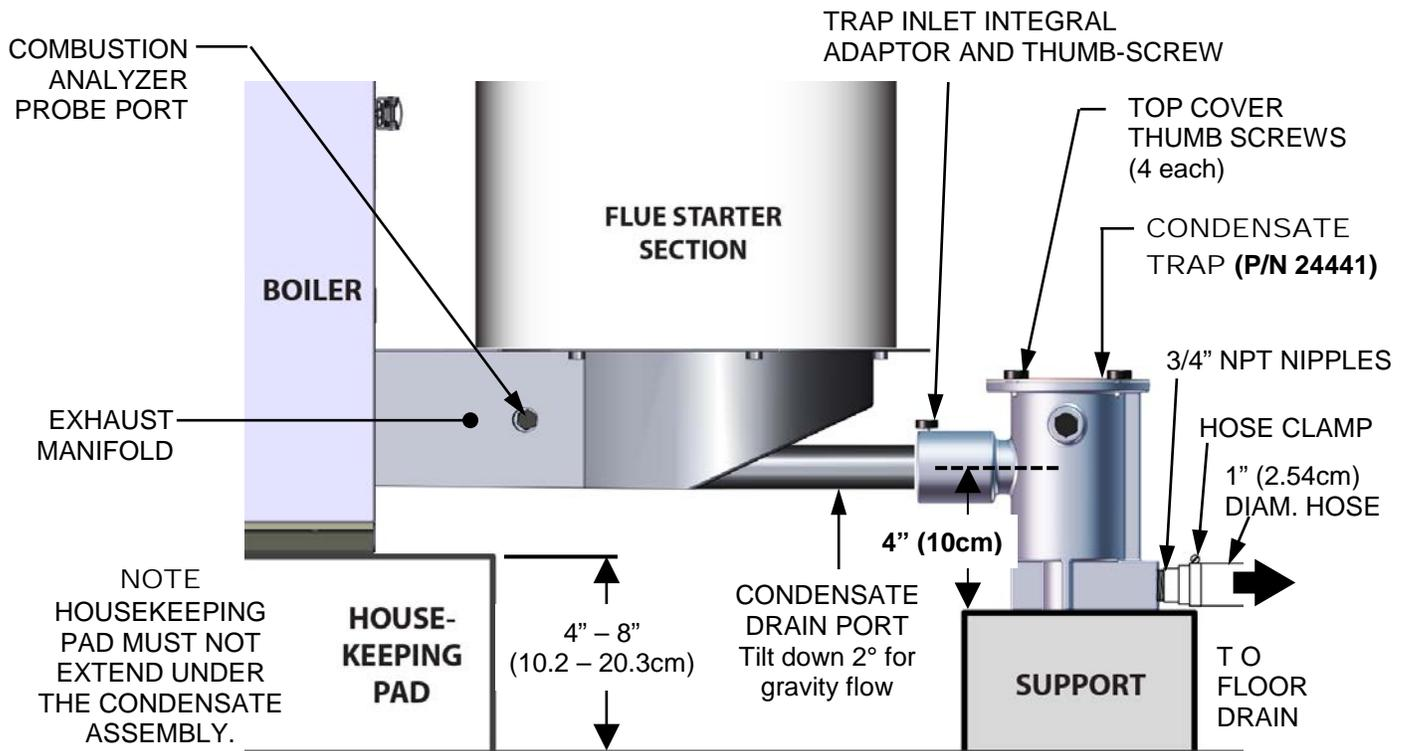

Figure 2-9: Sample Condensate Trap Installation
A sample condensate trap installation is shown in Figure 2-9. However, the actual installation details for the trap will vary depending on the available clearances, housekeeping pad height
- The condensate trap inlet (Figure 2-9) must be level with, or lower than the exhaust manifold condensate drain port.